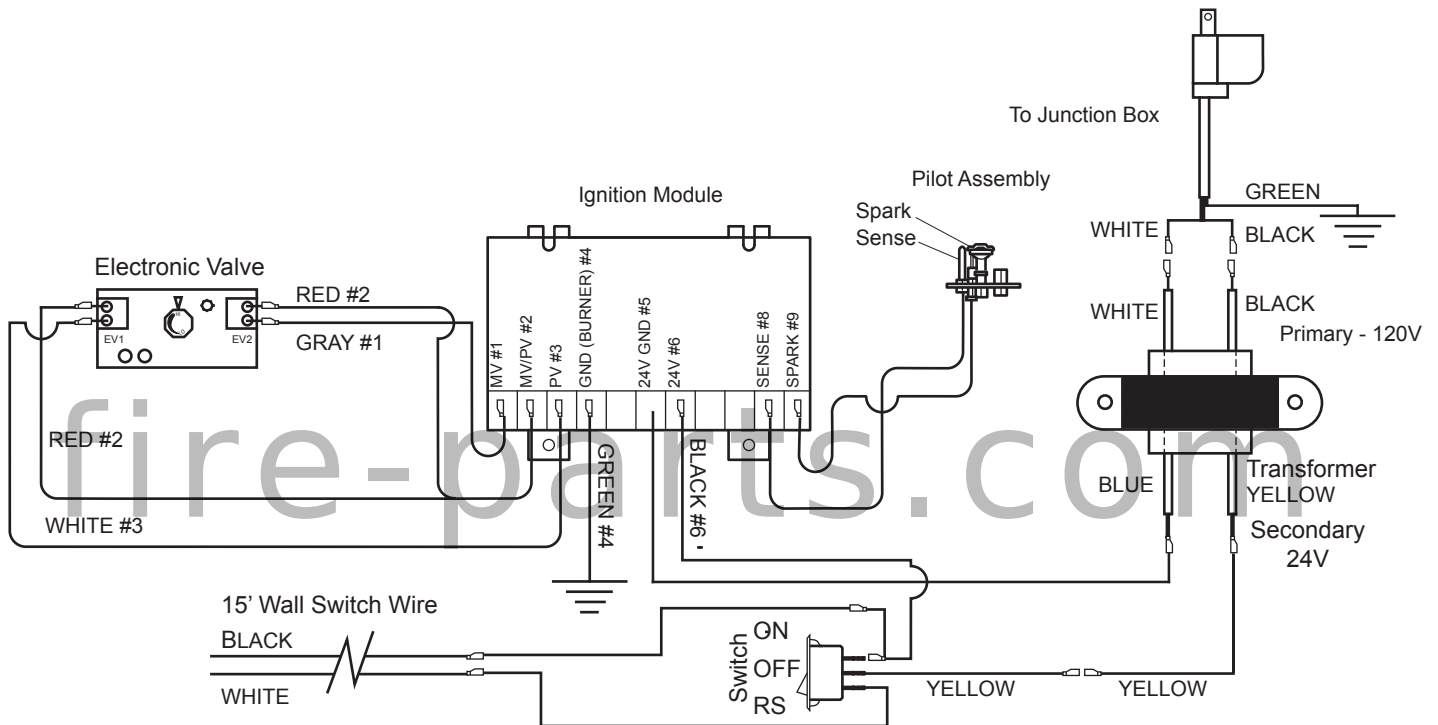

Figure 43 - Remote Wall Switch Wiring Diagram
2. Connect the wire terminal from the remote receiver. This replaces the 15' wall switch connection to the switch. *Figure 43*.